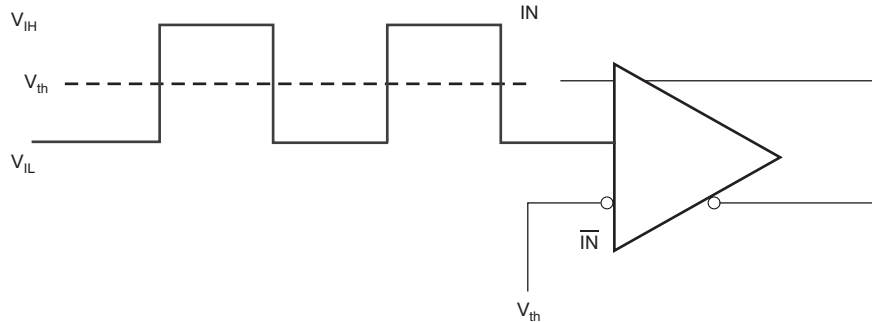
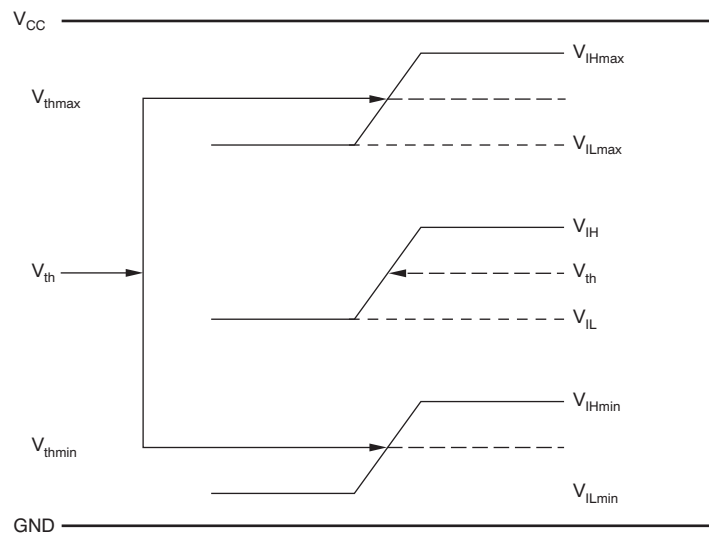

Figure 3. DC-Coupled LVCMOS Input During Device Test
Figure 4.  $V_{th}$  Variation Over LVCMOS Levels
(1) Figure 3 and Figure 4 show DC test setup.
This section describes the function of each block for the CDCLVP1102. Figure 3 through Figure 9 illustrate how the device should be setup for a variety of test configurations.